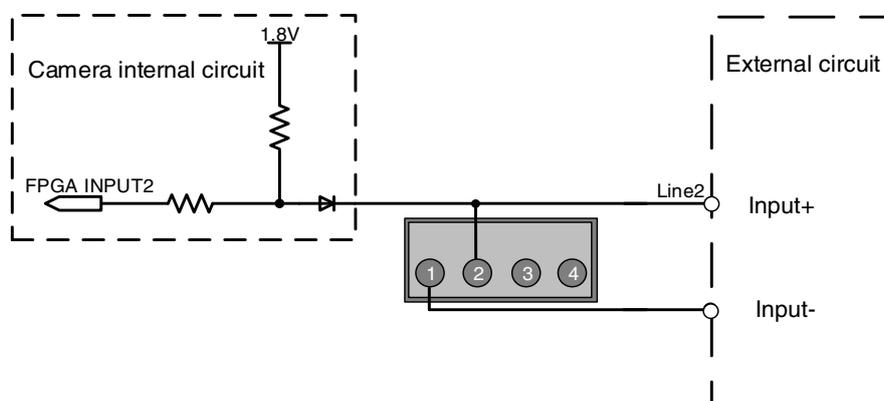

Figure 7-7 Internal equivalent circuit of camera when Line2 is configured as input
- When Line2 is configured as input, the internal equivalent circuit of camera is shown in Figure 7-7